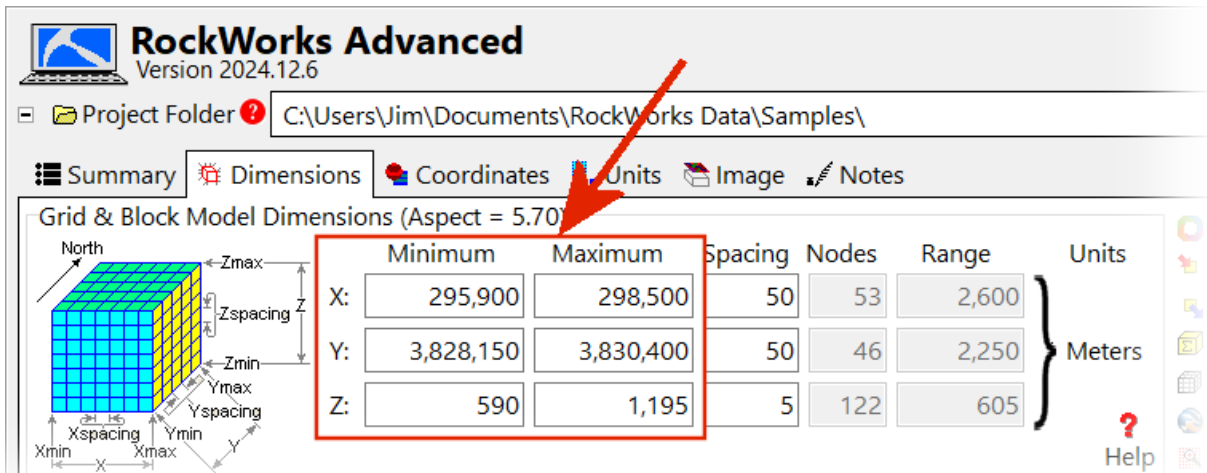

Figure 7
- Upon completion, the *Project Dimensions* (Figure 7) will represent a parallelepiped that encloses the control points.